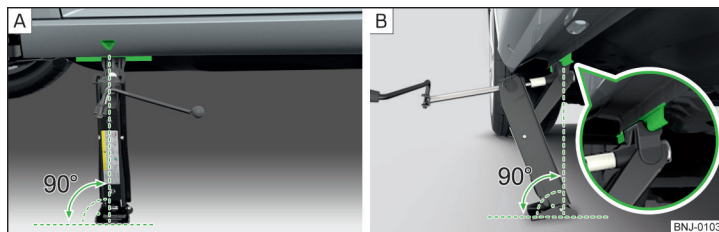

Fig. 163 **Attach lifting jack**
- Support the base plate of the jack with its full area resting on level ground and ensure that the jack is located in a vertical position at the jacking point » Fig. 163 - **A**.
- Position the lifting jack below the jacking point with the crank and move it up until its claw encloses the web » Fig. 163 - **B**.